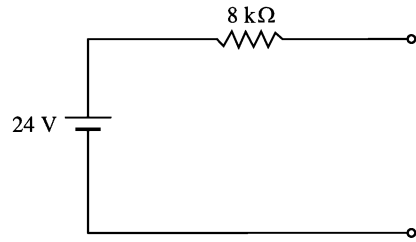

Fig. 1.49
- Convert the voltage source in Fig. 1.49 into equivalent current source. [3 mA in parallel with 8 kΩ]